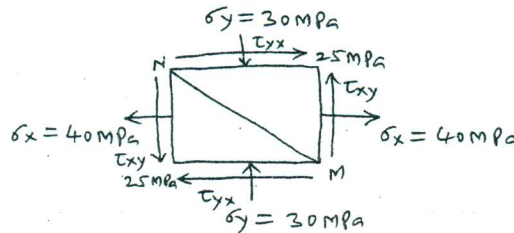

Fig.Q1(c)
- c. A point in a structural member subject to plane stress is shown in Fig.Q1(c). Determine the following :